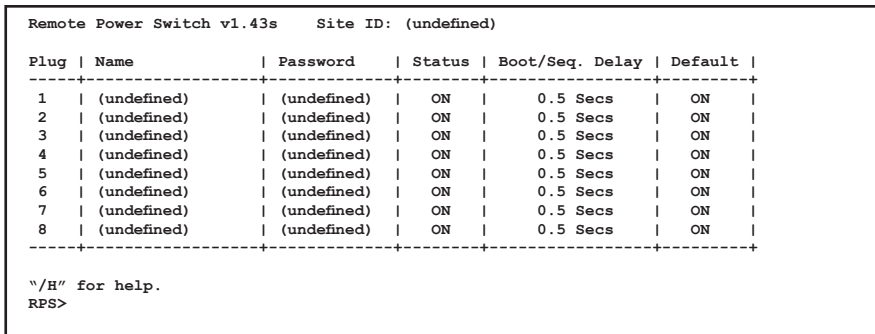

Figure 3.2: Plug Status Screen - Text Interface (Model RPS830 Shown)
- i. **Via Telnet:** Telnet to the RPS's default IP address (192.168.168.168). The Plug Status Screen (Figure 3.2) should be displayed.
- ii. **Via Local PC:** Start your communications program (e.g., Hyperterminal) and then press **[Enter]**. The Plug Status Screen should be displayed as shown in Figure 3.2. The default communications parameters for the Console Port are 9600 bps, No Parity, 8 data bits, One stop bit.